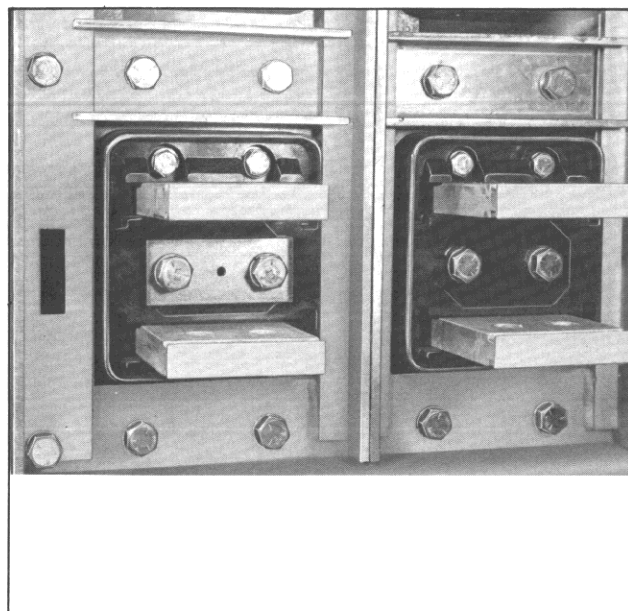
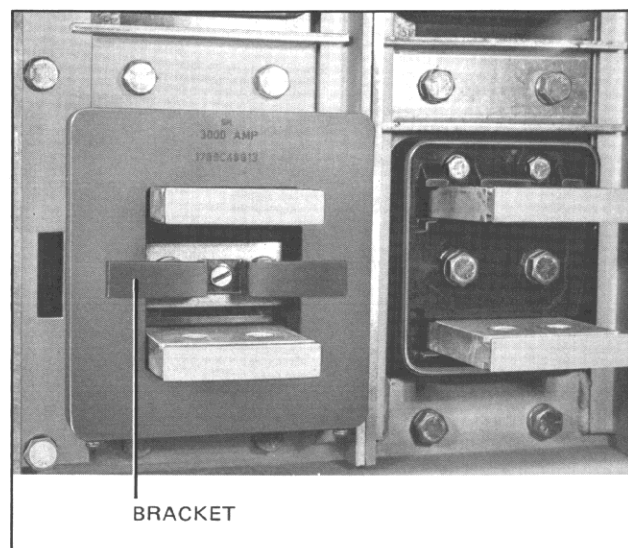

Fig. 32 Sensor Mounting Detail DB-75/100
Fig. 33 Sensor Mounted in Place with Bracket
8. Remove the finger clusters from the three lower studs, remove the two (2) .50-13 x 1.25 bolts located directly in the middle of the studs. Place the sensor mounting bracket with the nipples facing the two holes from where the bolts were removed and secure with two (2) .50-13 x 2.25 bolts and washers, (Fig. 32). Slide the sensors onto the studs, do not force the sensors on, due to close tolerances the sensor may be inched from side to side to get them properly mounted. Once the sensor is up against the back plate secure it with the mounting bracket using the .25-20 x .50 Panhead screw, (Fig. 33). The sensor must be mounted with the end marked with the letters "SH" on top. These sensors have a special shield to minimize the effect of stray flux.